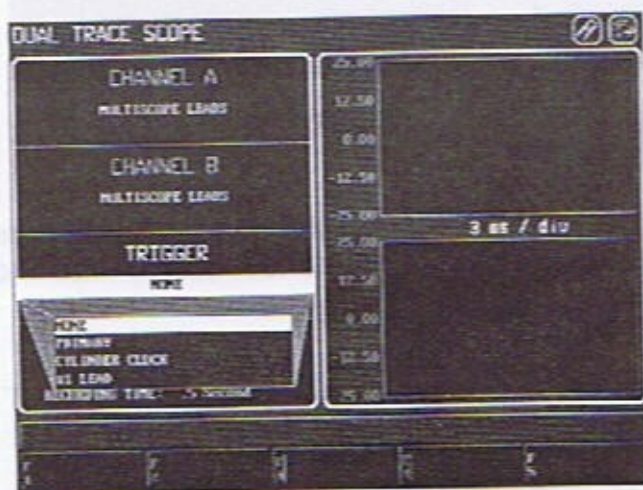

Figure 3-50
4. To change the trigger source, use the up- or down-arrow keys to highlight the **TRIGGER** source selection and press [ENTER]. A drop-down menu will appear (see Figure 3-50). Highlight the correct trigger source and press [ENTER].